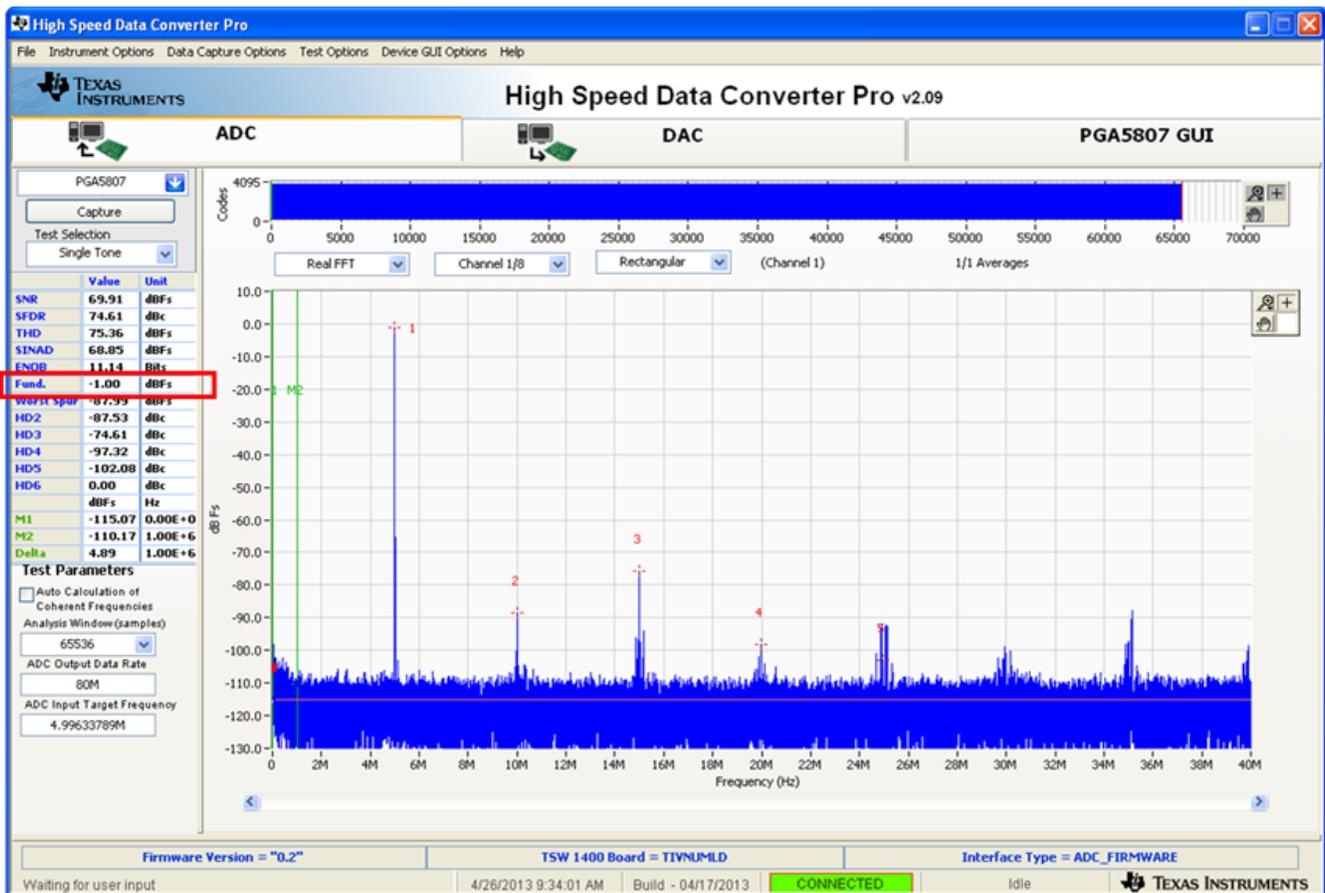

Figure 42. ADS5296 Only Sinusoidal Capture 1
- The plot will update as shown in Figure 42. Take note of the *Fund.* value in the left panel highlighted in RED in Figure 42. This value is dependent on the signal level set on the signal generator feeding the input signal to J36. It also depends on cable loss and filter insertion loss which can vary among parts. If needed, reset the signal amplitude (level) until the *Fund.* value is approximately -1.0 dBFs, as this is the condition for which the datasheet specifications are set. The input level was iteratively adjusted to achieve -1.0 dBFs as seen in Figure 42.